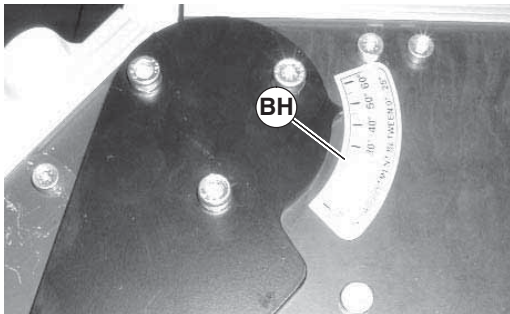

Figure 48
2. Place temporary support (Figure 48, item BF) under conveyor sections.